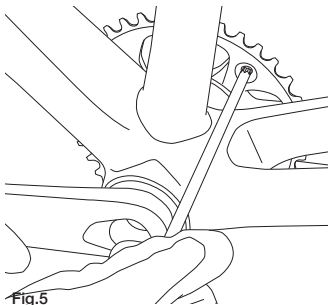

Fig.5
- Working from the inside of your bicycle, loosen the four chainring screws using a Torx 30 spanner (Fig. 5).